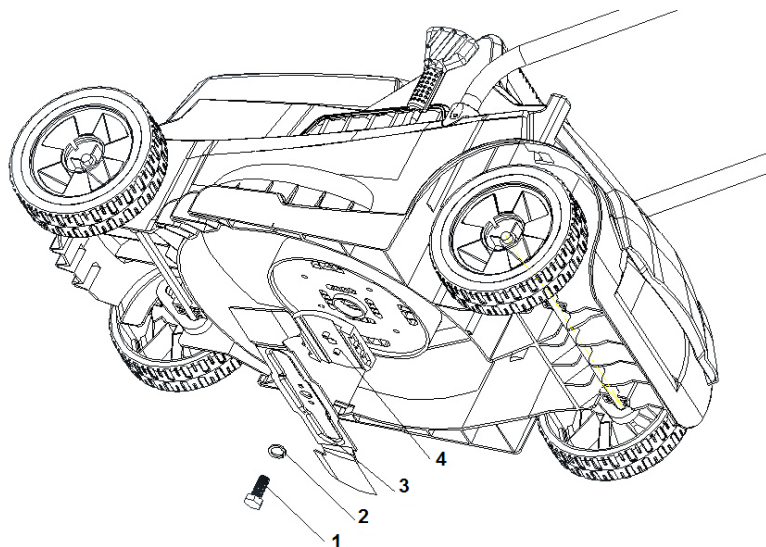

Fig. 7
- 2) Using a 19 mm wrench or socket, loosen the blade nut (**Fig.7 No.1**) and remove the blade (**Fig.7 No.3**). Turn the nut "COUNTER-CLOCKWISE" to loosen it and "CLOCKWISE" to tighten it.
- 3) Remove the blade nut, the washer (**Fig.7 No.2**), the blade, and blade holder (**Fig.7 No.4**).